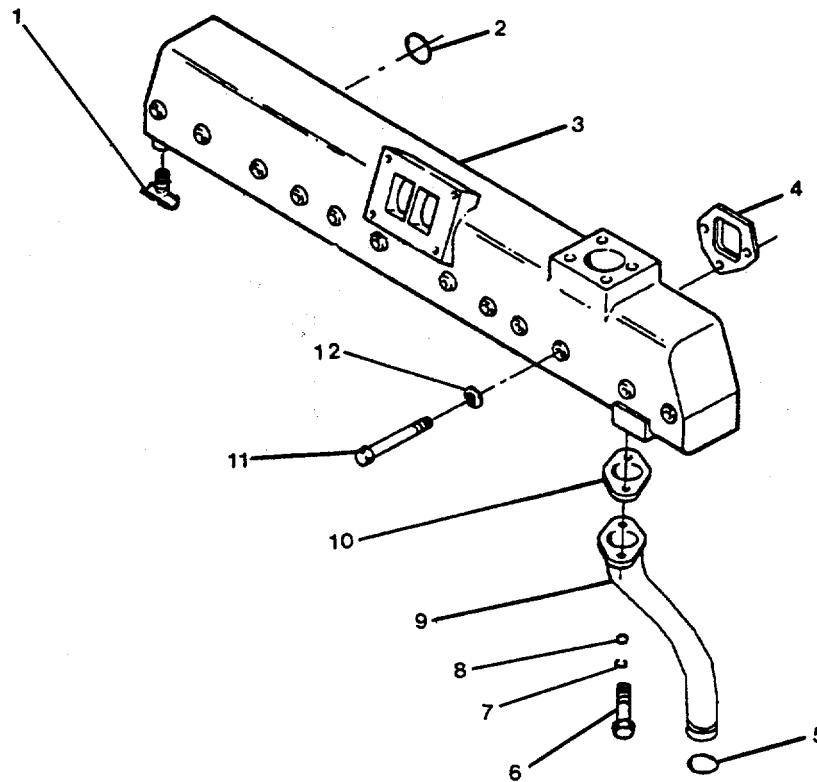
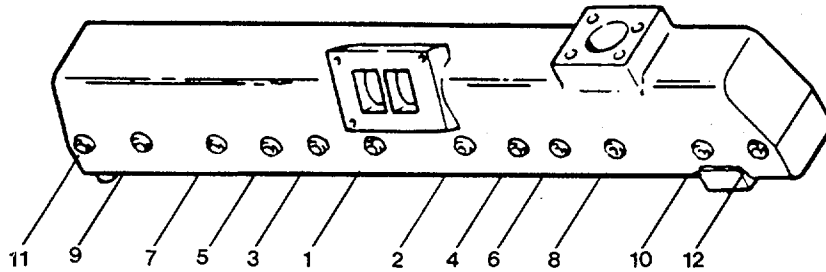

FIGURE 2-50. *Exhaust Manifold Group.*
FIGURE 2-51. Exhaust manifold Torque Sequence
- a. Remove the drain cock (1, Figure 2-50) from the exhaust manifold (3).
- b. Install the exhaust manifold (3, Figure 2-50) with three new gaskets (4), new packing (2) and ten hexagon head capscrews (11) and lockwashers (12).
- c. Remove the guide studs, and install the two remaining hexagon head capscrews (11) and lockwashers (12).
- d. Tighten the hexagon head capscrews (11) in the sequence shown (Figure 2-51) at the following values:
- (1) Tighten to 35 ft-lb (47.4 N•m) torque.
- (2) Tighten to 60 ft-lb (81.3 N•m) torque.
- e. Install the water connection (9, Figure 2-50) tube, with a new gasket (10), and packing (5). Install hexhead capscrews (6) and lockwashers (7) and flat washers (8).
- k. Fill the cooling system (Table 2-1, item 24).